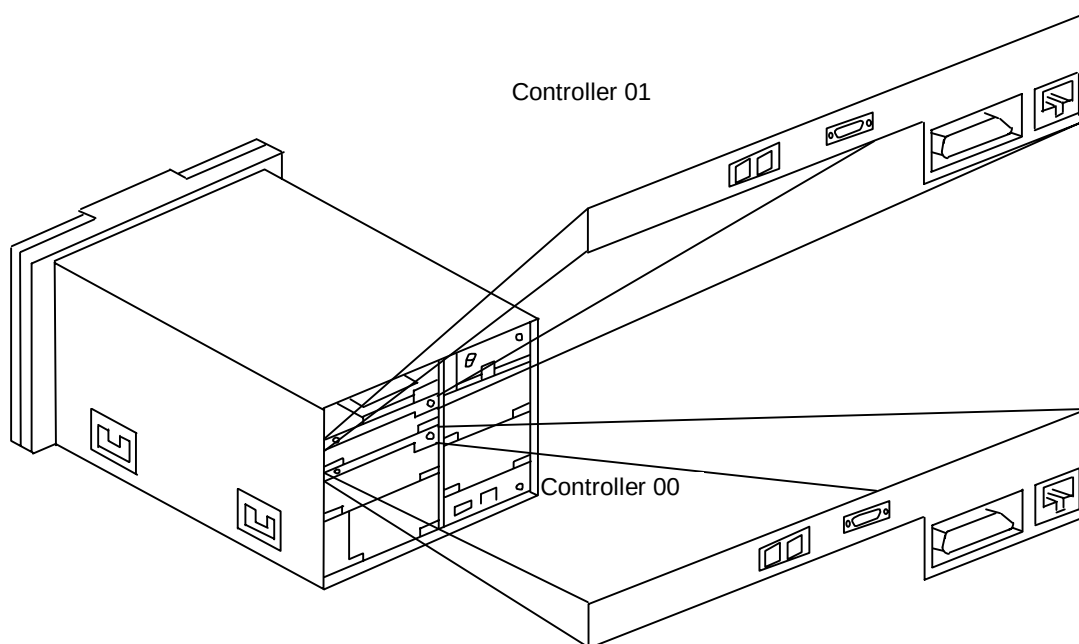

Figure 9.1 Fibre Connector Layout
9. Replacing I/F ADAPTER ASSY (See Figure 9.1, 9.2, 9.3 and Table 9.1.)